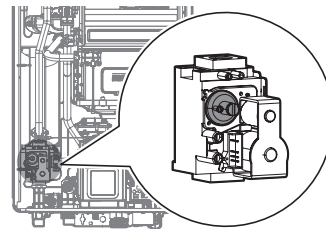

Figure 10
- c. Fully open a hot water fixture and set the water heater to operate at 1-stage MIN mode (refer to "Setting the Operation Mode" on page 105). Measure the offset value at low fire and compare it to the values in Table 3. If the offset value is out of range, the gas valve set screw will need to be adjusted. If adjustment is necessary, locate the set screw as shown in Figure 10. Using a 5/32 in or 4 mm Allen wrench, turn the set screw no more than 1/4 turn clockwise to raise or counterclockwise to lower the offset value.